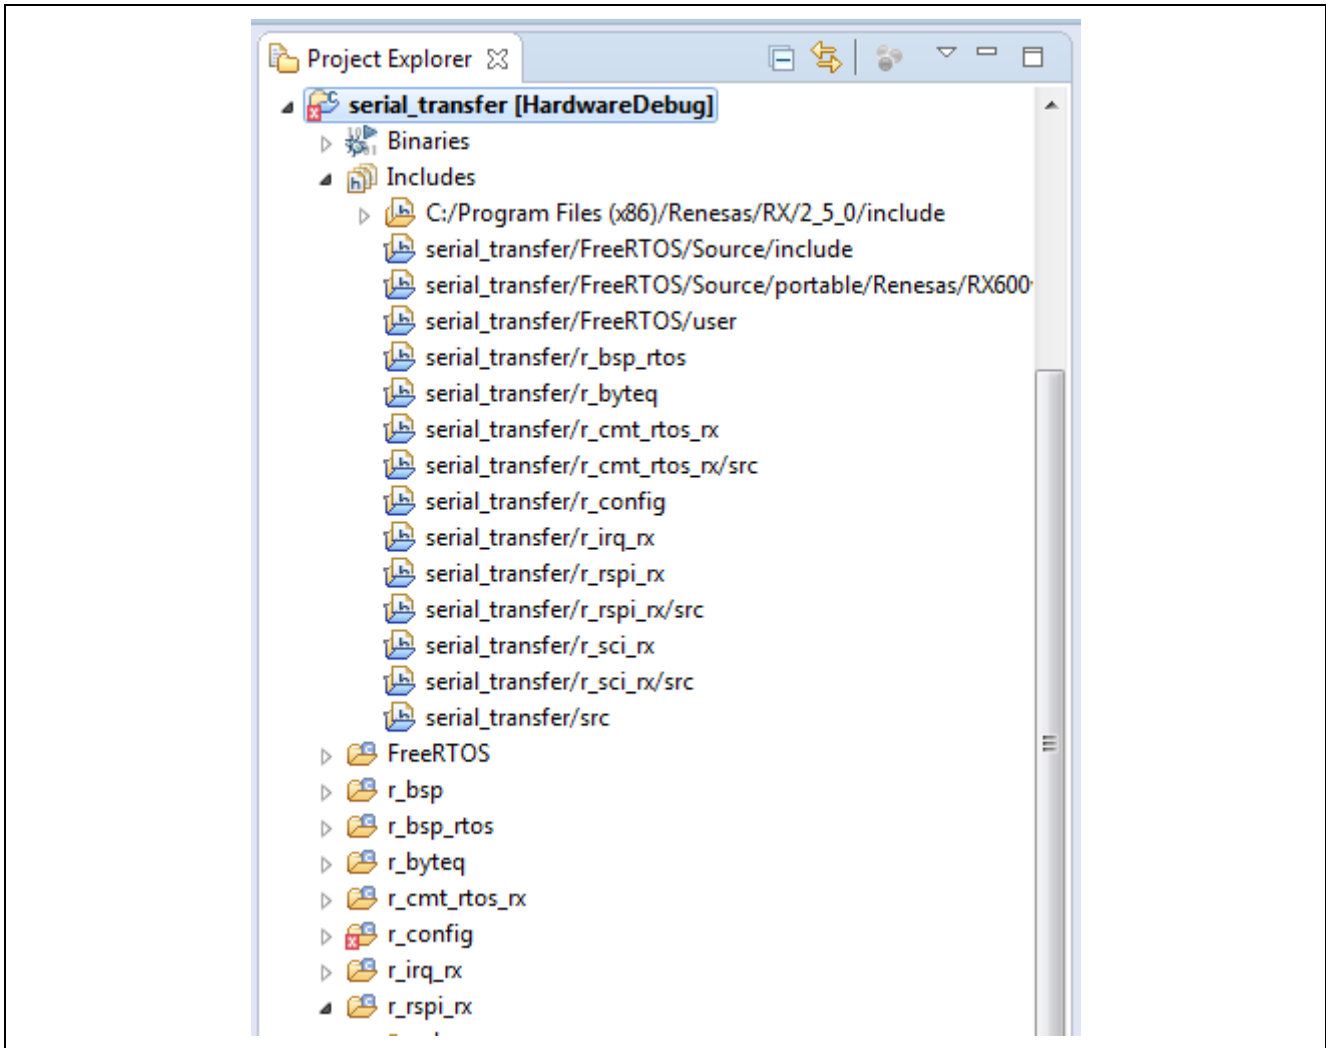

Figure 3-16 Result after including paths
5. In Project Explorer, make sure all necessary folders are included successfully as Figure 3-16.